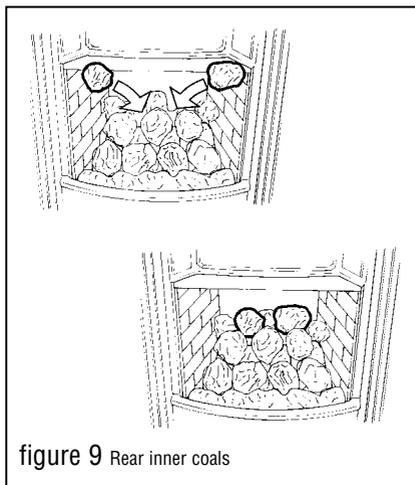

figure 9 Rear inner coals
- 3.4 Place the remaining two medium size coals at the back of the burner compartment and between the two small loose coals (See figure 9).